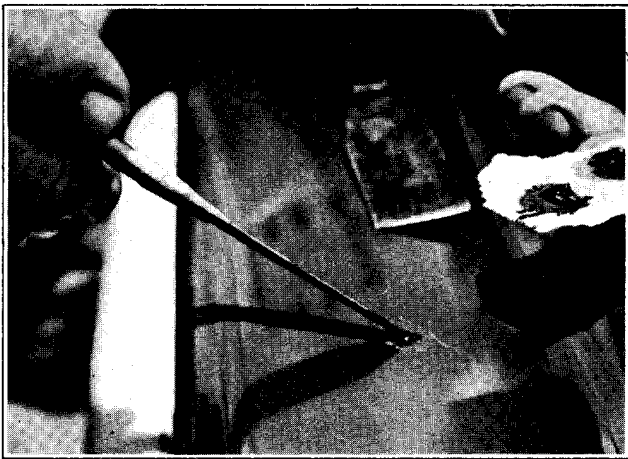

Figure 2-50. Filling Hole on Scratch
4. Fill the scratch or hole above the surrounding undamaged area about 1/16", working the material into the damaged area with the sharp point of a knife. Be careful to puncture and eliminate any air bubbles which may occur. See Figure 2-50.